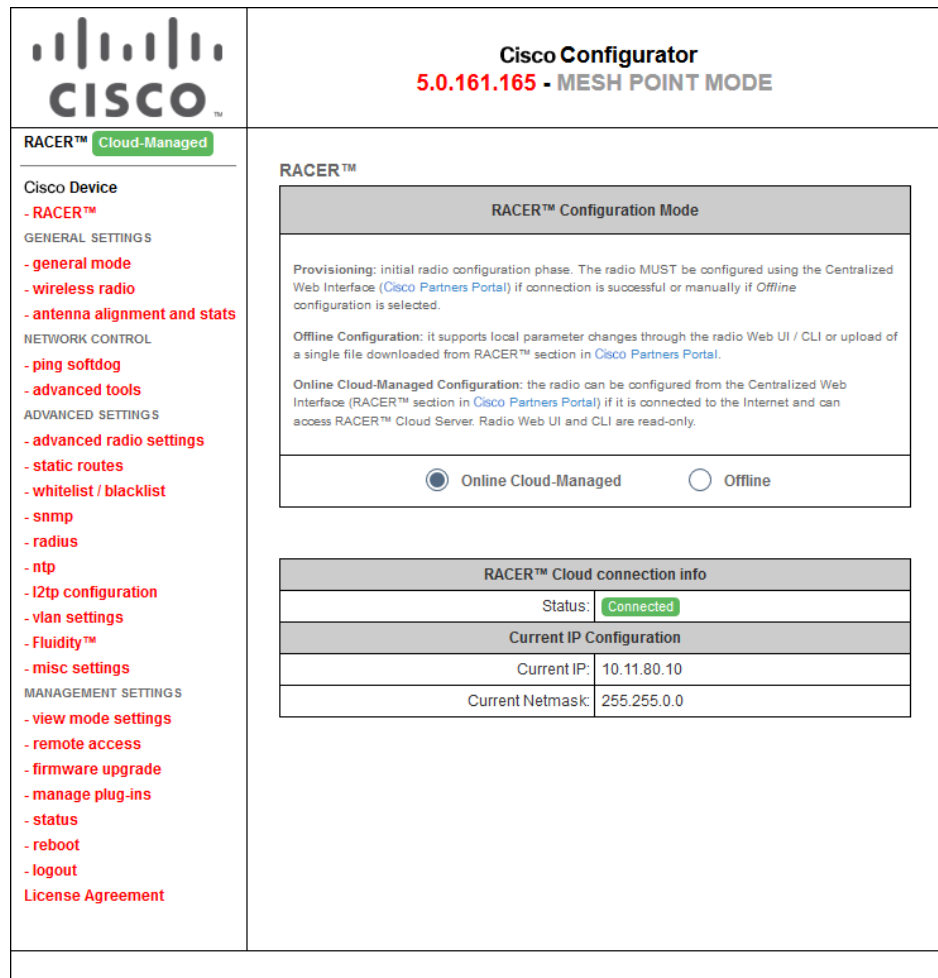

Figure 21. Cisco Configurator (landing page)
- The Configurator landing page will be shown (Figure 21 (page 68)).